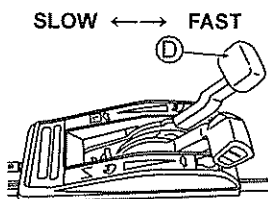

Fig. 19.
5 Adjust the mowing speed with Gearshift lever (D). (See Fig. 19.)